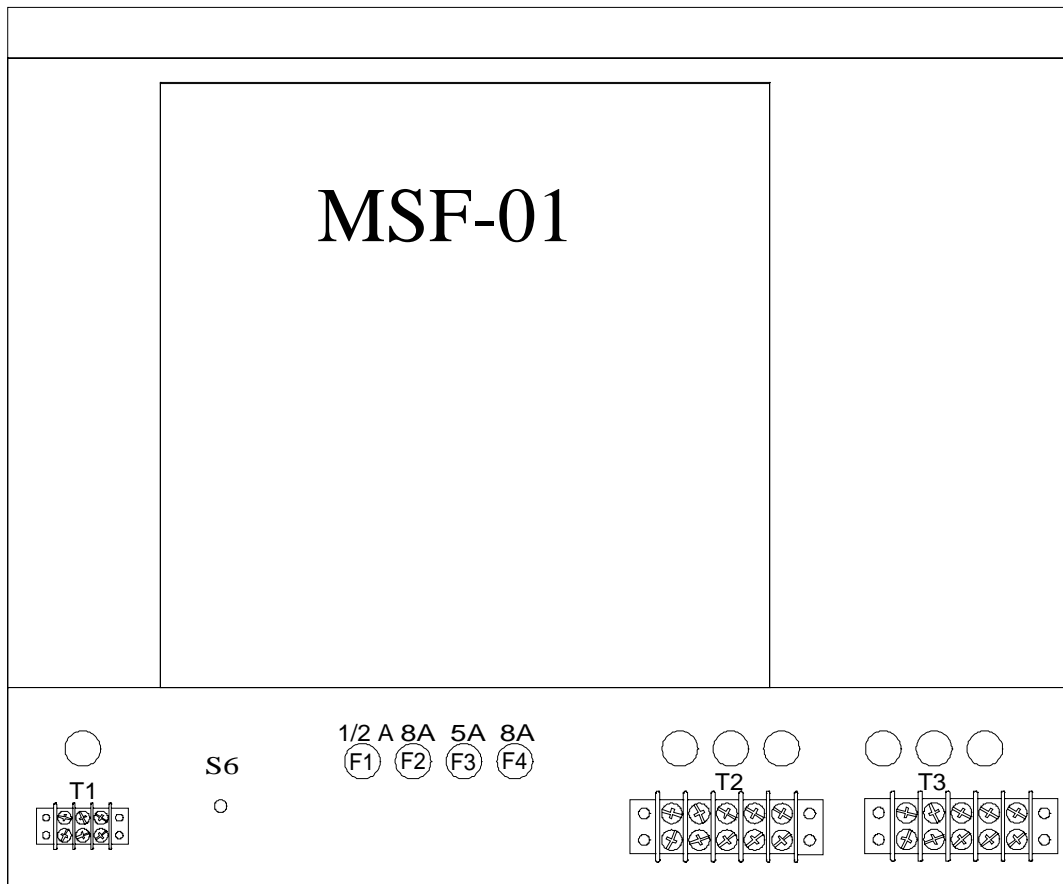

Figure 7 Upper Access Panel Removed
4. Figure 7 shows the view behind the access panel.